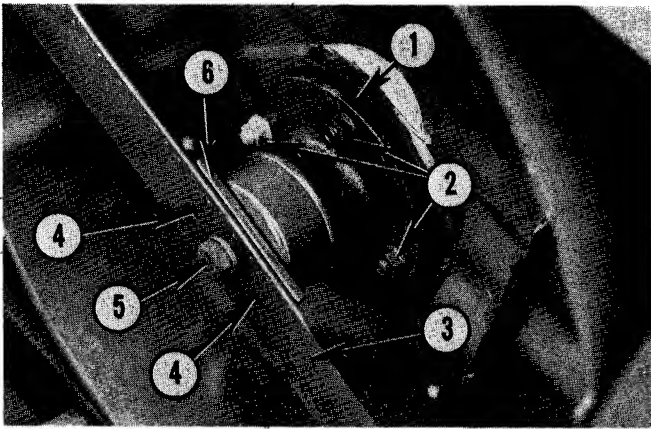

Fig. 42 — Belt Adjustment
— FIGS. 42 AND 43
3. Loosen outboard spindle housing nuts, No. 2, Fig. 42, one turn only.
5. Tap spindle housing, No. 1, Fig. 42, under mower base with a hammer to overcome any friction at mounting bolts.
8. Tighten spindle housing bolts, No. 2, Fig. 42, to 30-35 ft.-lbs. torque. Reinstall belt covers.
Wrap blade with heavy cloth and hold while loosening bolt. Note order components are taken off so they can be replaced same way. Blades are attached to spindle by means of blade adaptor, two shear pins and a bolt with a belleville spring washer and a lockwasher, Fig. 42.